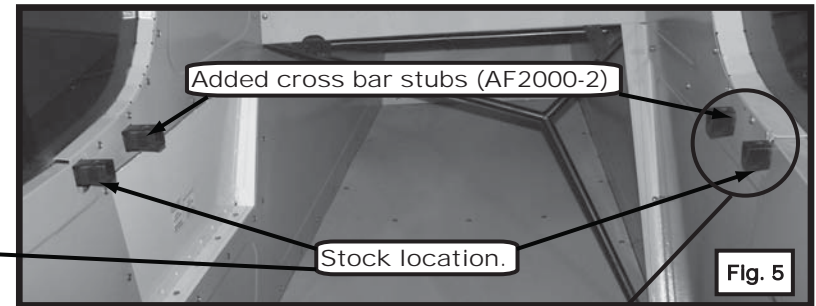

Fig. 5
3. Install two additional cross bar stubs (AF2000-2) 3 inches behind the originals (See Fig. 5 & 5A). This is done by welding the new part to the existing fuselage longerons. The side panel and / or upholstery will have to be notched in order to accommodate the new cross bar stubs. Note that this STC requires STC SA681AL (removeable rear seat cross bar kit - F. Atlee Dodge P/N 3146) be installed. It is important that both new cross bar stubs are lined up correctly, so that the cross bar may be easily installed and removed. This may require trimming of the rear portion of the cross bar stubs such that the stubs are parallel.